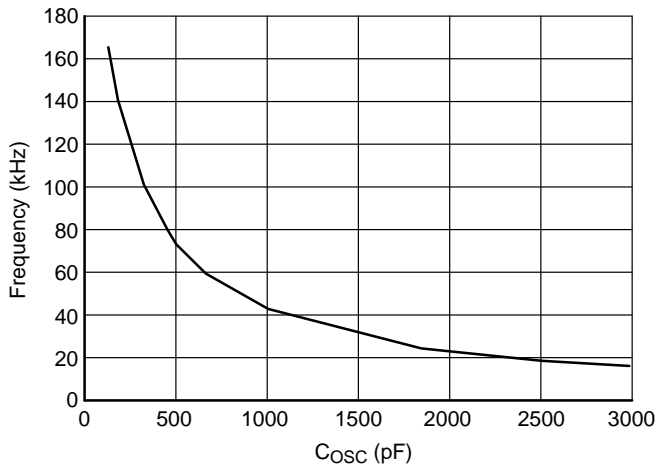

Figure 5. Oscillator Frequency (kHz) vs. C_{OSC} (pF), Assuming $R_{BIAS} = 64.9 \text{ k}\Omega$
| Switching Frequency | Refer to Figure 5 | 80 | 95 | 110 | kHz |
| Max Switching Frequency | V _{SW} = 7.5 V with 50 Ω Load, Refer to Figure 5 | 120 | – | – | kHz |
| 13 | C_{OSC} | A capacitor connected to GND sets the switching frequency. Refer to Figure 5. |
1. Refer to Figure 5 to determine oscillator frequency.
Choose C_{OSC} based on the target oscillator frequency with an external resistor value, $R_{BIAS} = 64.9 \text{ k}\Omega$ (See Figure 5).